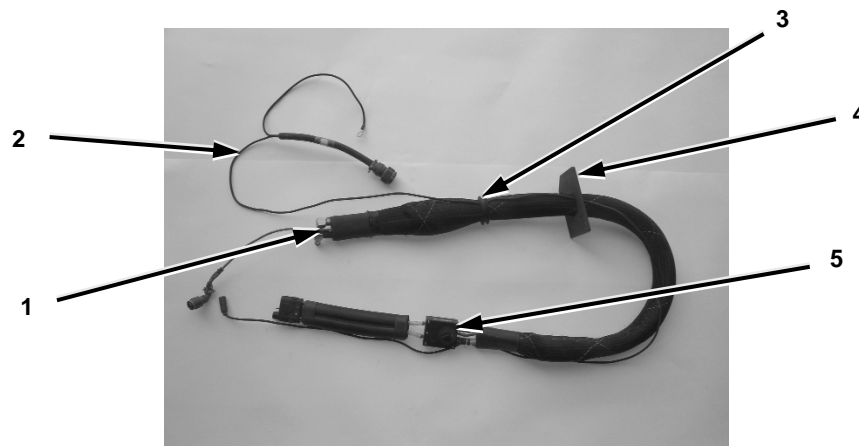

Figure 2-6. Assembly of MCU Wiring Harness, Grommet and Grommet Bracket on MCU Umbilical.
Steps 1 through 3 below apply to Figure 2-6.
1. Position the MCU wiring harness (12491610) (2) against the outside of the MCU coolant umbilical (LSF00664) (1) as shown in Figure 2-6 below.
2. Slide the grommet plate (12475741) (4) and grommet (MS35489-114) (3) over MCU end of coolant umbilical (1) and positive electrical lead of MCU wiring harness (2). Slide grommet (3) and grommet plate (4) towards the Bypass Control Assembly (BCA) (5) end of the coolant umbilical.
3. Insert grommet (3) into the grommet plate (4).